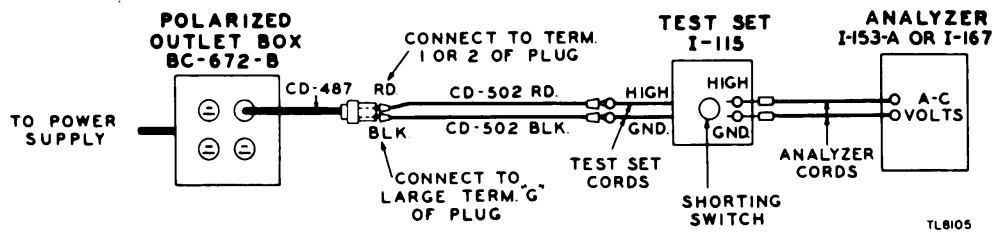

Figure 29. Test Set I-115, sketch of test connections.
- (1) Operate the shorting switch on Test Set I-115.
- (2) Set up the connections to the test equipment as shown in figure 29, first connecting Cords CD-502 to Test Set I-115 and to the plug of Cord CD-487. Be careful not to short-circuit the clips against the shell of the plug. Then connect Cord CD-487 to the polarized outlet box.
- (3) Adjust the output of the power unit to 120 volts.
- (4) With the shorting switch held in the operated position and the analyzer set to read a-c volts on the 10-volt scale, read and record the voltage across the output terminals of Test Set I-115.
- (5) Allow the shorting switch to assume its normal unoperated position.
- (6) Determine the input-to-output voltage ratio by dividing 120 by the numerical value of the voltage read in step (4). (The ratio is usually about 26 to 1.) Record this value with that of step (4). This value may be referred to for future use and need not be recalculated, unless there is a material change in the voltage read in step (4).
- (7) With the analyzer set to read a-c volts on the 10-volt scale, make sure that the voltage read across the output terminals is lower than was observed in step (4). If the voltage reading does not change, it is an indication that the shorting switch is inoperative or the capacitor is short-circuited. If no voltage reading is obtained on either test, an open circuit is indicated.